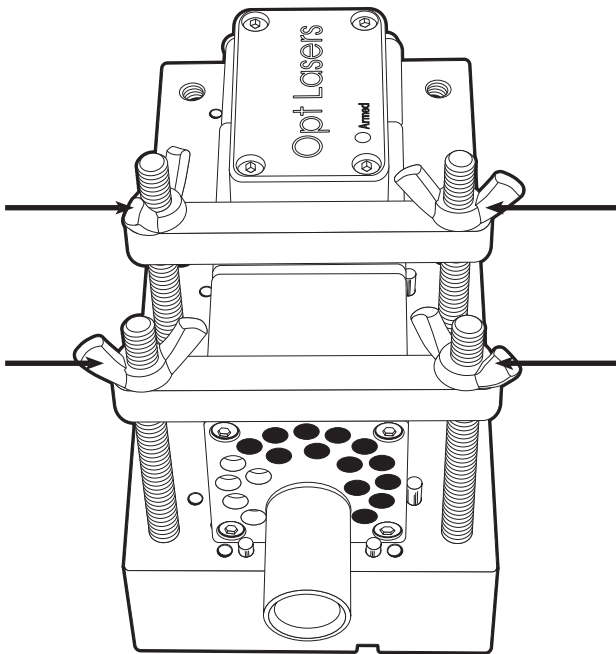

FIGURE 8—The wing nuts threaded onto the hold-down studs.
- Thread on the (4) wing nuts (P/N 89554) until they almost make contact with the top of the hold downs (see Figure 8).